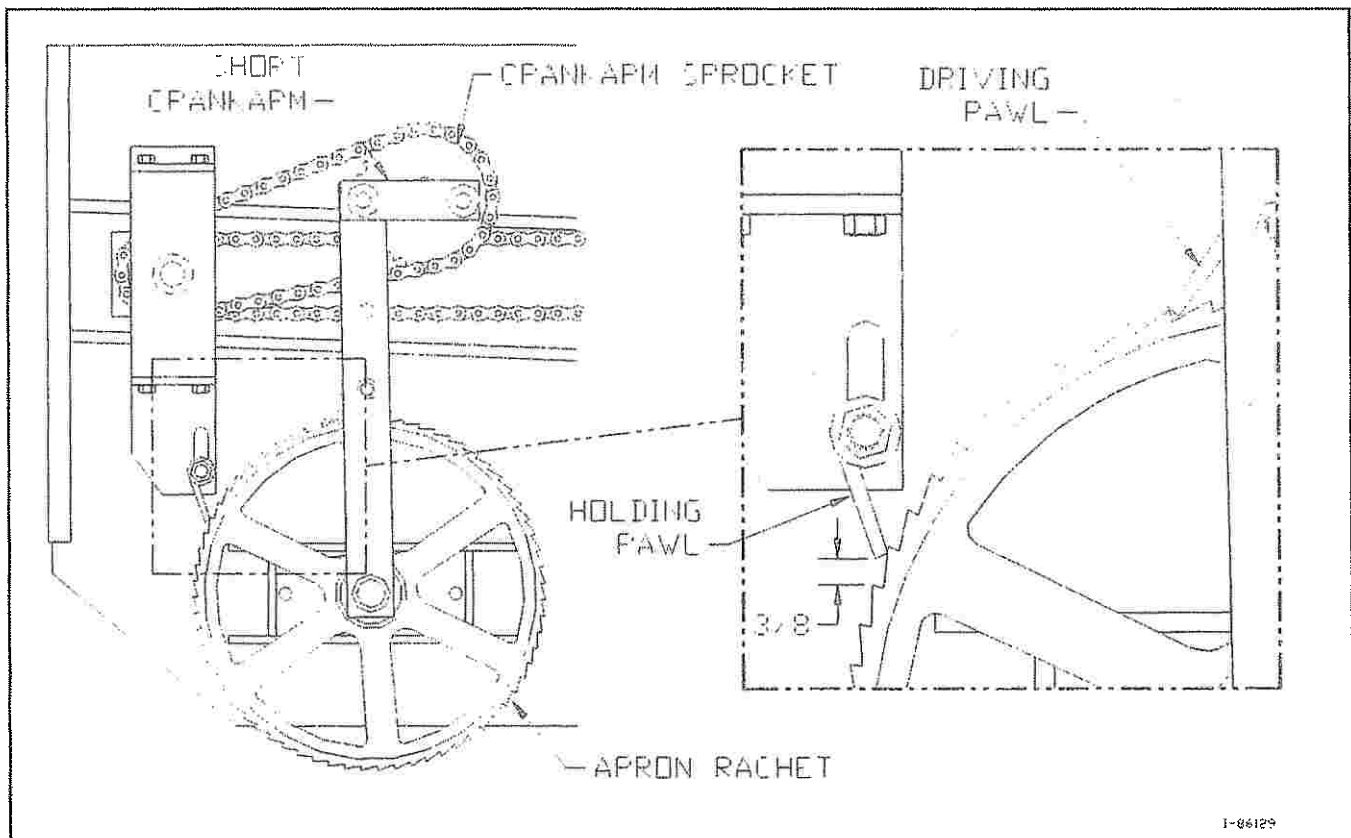

Figure 4C- Adjusting the Apron Chain Speed
Depending upon the consistency of material being spread and/or the desired thickness of spreading, adjustments to the apron chain speed may be made to achieve the desired spreading action. The speed of the apron chain can be varied by adjusting the position of the Holding Pawl (as shown in Figure 4C).
- (d) Adjust the Holding Pawl to obtain a $1/8$ " gap between the end of the pawl and bottom of the notch as shown in Figure 4C. Tighten the nut to secure the Holding Pawl.